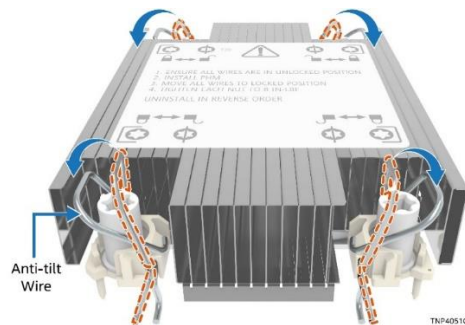

Figure 103. Processor Heat Sink Anti-tilt Wires in the Outward Position
- Set the anti-tilt wire over each of the four heat sink fasteners to their outward position (see Figure 103).